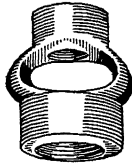

Fig. 227. Mal-
*Hickeys.* Figure 226 shows a typical open-armed hickey made of brass. The hickey shown in Figure 227 is made of malleable iron. The openings in the side of the hickey permit the entrance of wires to the electrical outlet. Hickeys are used in fixture outlet boxes and for portable lamps.